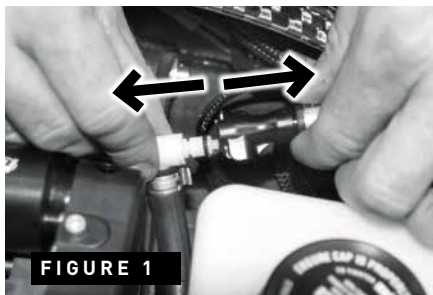

FIGURE 1
1) Disconnect the 2-pin connector (marked with a red cable tie) which is connected in the connector holder – FIGURE 1.
1) Disconnect the second CPC coupling connecting the tube coming out of the tank to the tube going to the injector – FIGURE 1. The CPC coupling has a security clip which must be pressed when disconnected.